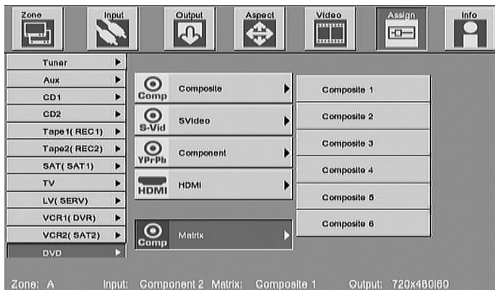

Figure 9
- Press the ◀LEFT push-button, then the ▼DOWN Push-button to select MATRIX. Refer to figure 9.